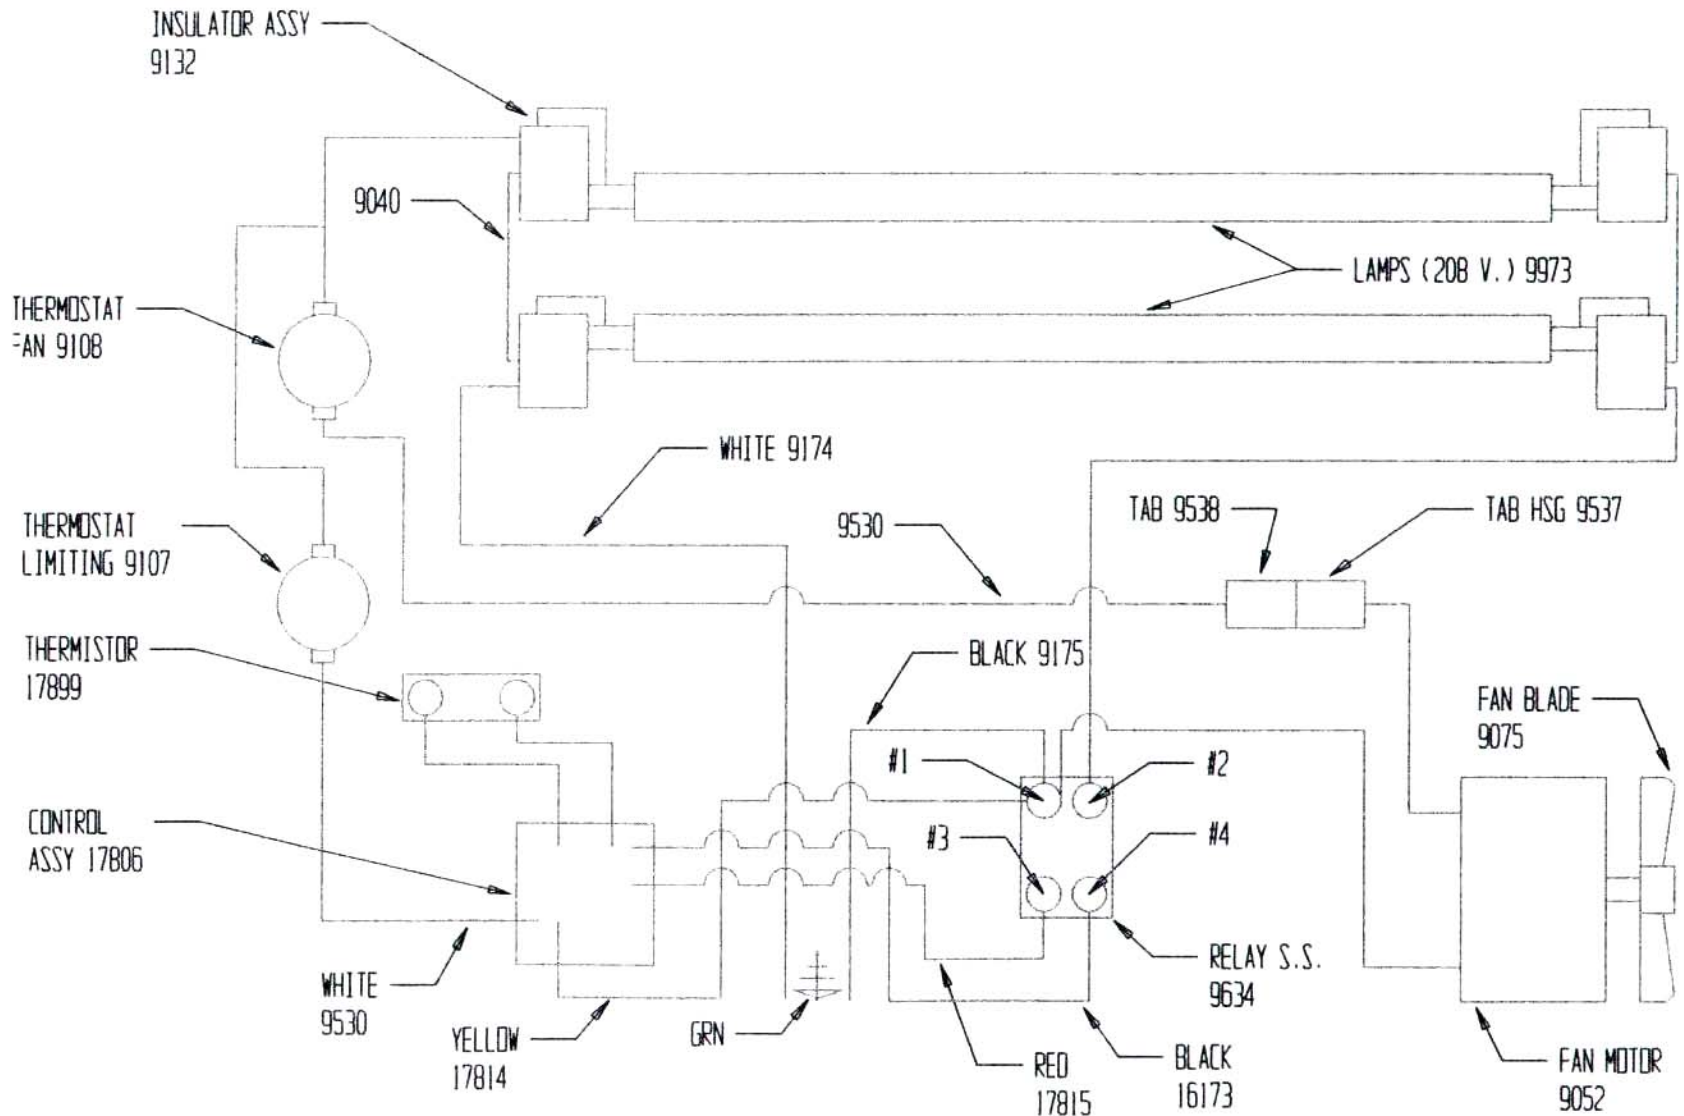

Figure 5. 575 EC Wiring Diagram
* If Requested For a detailed listing of electrical components and wires, see Figure 5 on page 13